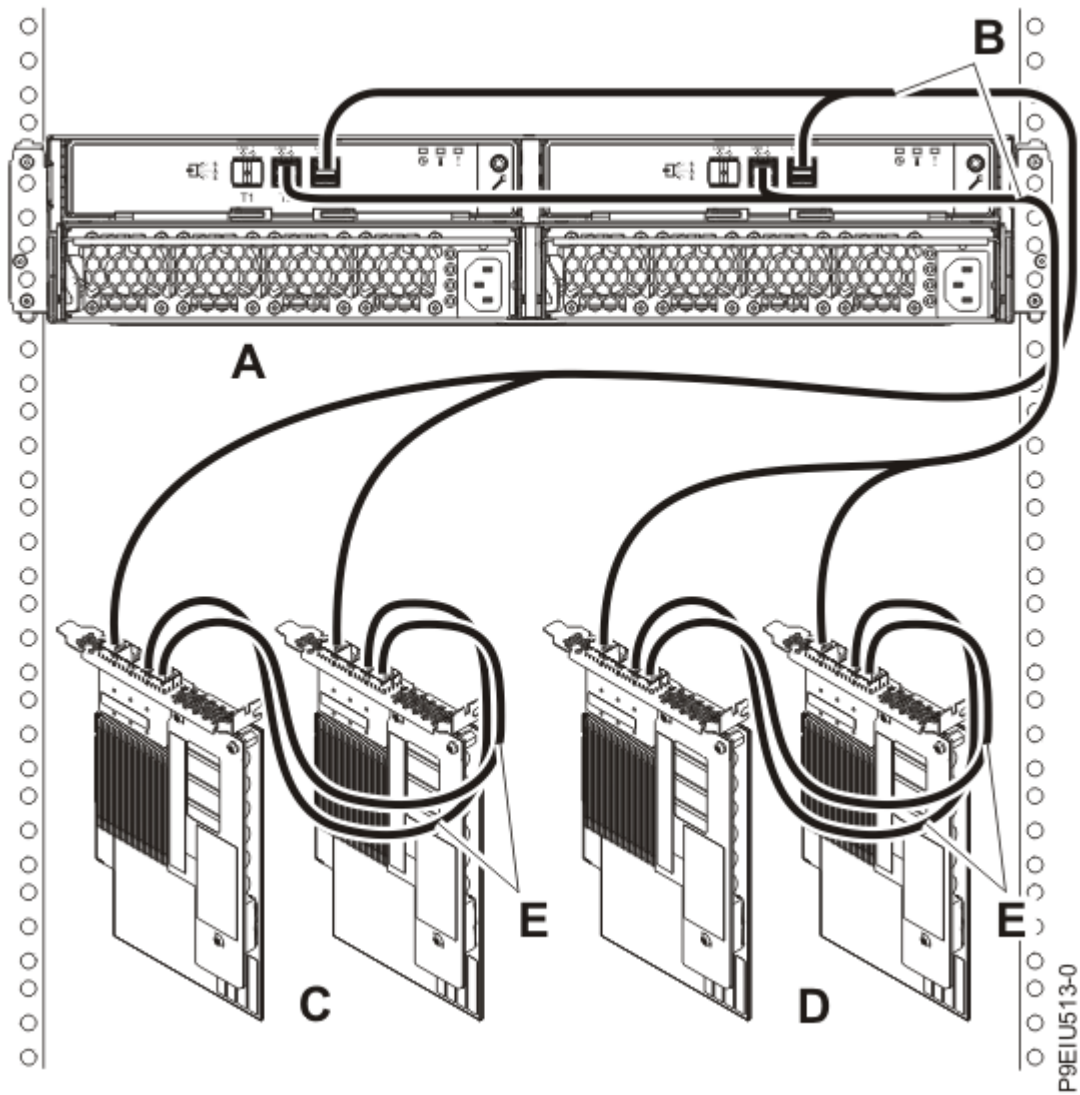

Figure 22. Mode 2 connection of one ESLS by using X12 cables to two FC EJ0L SAS adapter pairs or two FC EJ14 SAS adapter pairs with AA cables
22. Complete a mode 2 connection of one enclosure (A) by using X12 cables (B) to two FC EJ0L SAS adapter pairs or two FC EJ14 SAS adapter pairs (C and D) with AA cables (E), as shown in Figure 22 on page 27. Then, continue with “Connecting cables, power cords, and installing covers” on page 29.